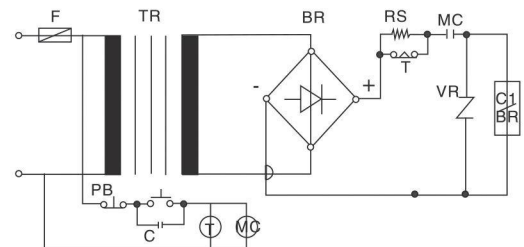

FIG. 5
C. Timer control circuit (overvoltage mode) -- that is, in the initial stage, the instantaneous excitation clutch is twice higher than the rated voltage, the establishment of current is advanced and the torque establishment time is improved, but the release time is slow. (figure 5)